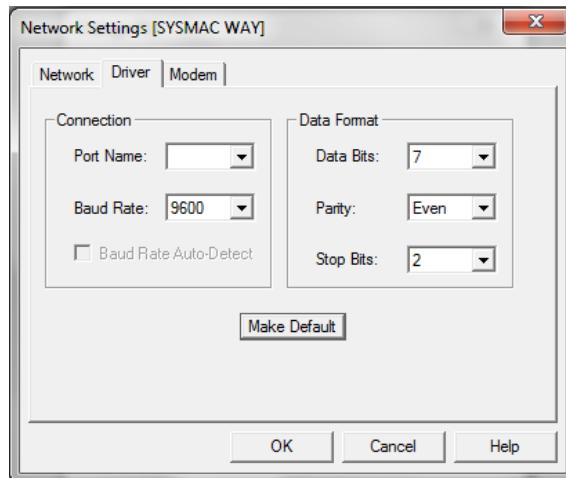

Figure 1.5 Network Setting
5. Return to the previous window, in **Network Type** choose **SYSMAC WAY**. Then click **Settings**, **Network Setting (SYSMAC WAY)** window will appear as in Figure 1.5.